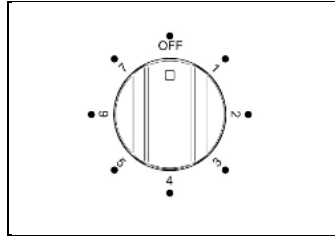

Fig 20A
**2** Turn the grill control knob (Fig.20A-20B) clockwise to the maximum setting 7. The adjacent red thermostat light will illuminate. For best results you should preheat the grill for 3-5 minutes.